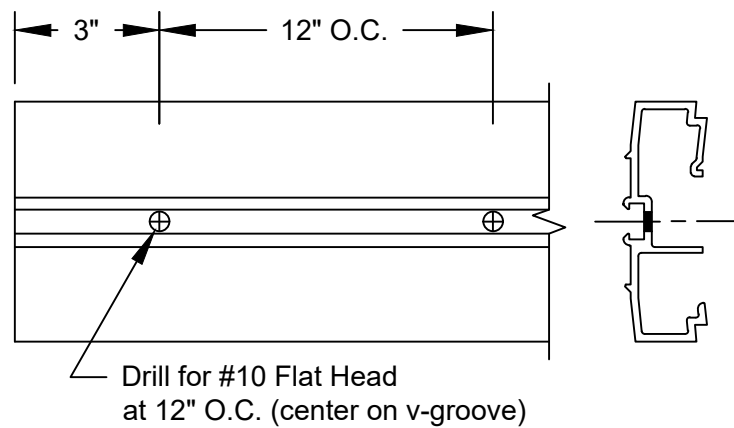

FIGURE 6
- 1.7 If glazing SSG mullion using 1/4" glass, fabricate IW-131 glazing adaptor for #10 (.191Ø) holes at 12" o.c. SEE FIGURE 6, page 8.